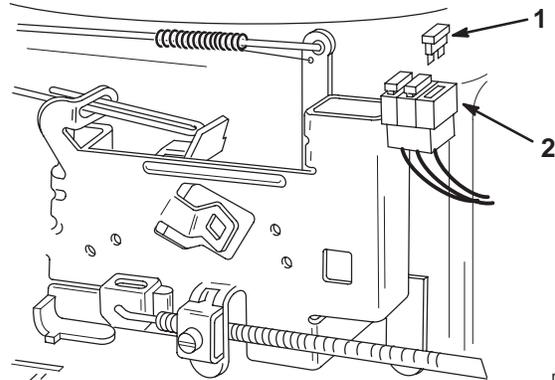

Figure 27
- Pull up on the fuse (Fig. 27) to remove it from the socket.